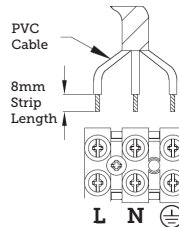

Figure 4 - Recommended Strip Length for wiring connection to water heater's built-in terminal block.
5. Connect wire from Splash Proof Water Heater Connector to water heater's built-in terminal block. Recommended strip length is 8mm. (Fig. 4)